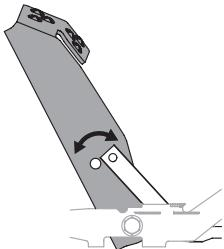

Figure 38
- Position the pedal to the optimal position based on operator preference (Figure 38).